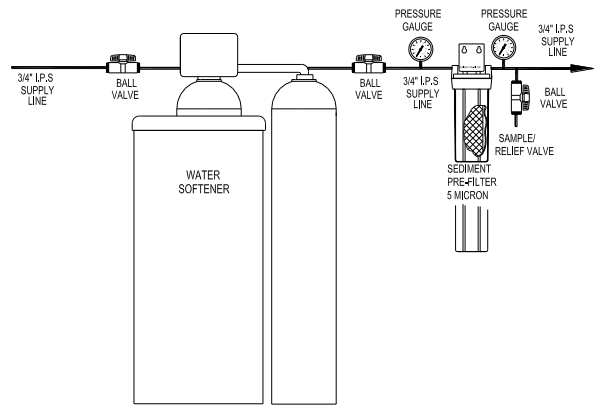
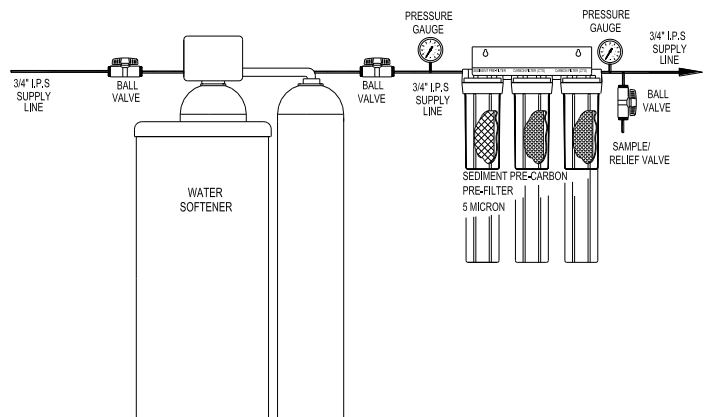

FIGURE 2: NON-CHLORINATED FEED
FIGURE 3: CHLORINATED FEED
If the system requires the installation of a softener, a five-micron sediment filter should be installed just before the RO system (Fig.2)
If the system requires non-chlorinated water and the feed water is chlorinated, install a carbon cartridge filter after the five-micron sediment filter and before the RO. (Fig.3)
If using a backwashing carbon filter, the five-micron sediment filter will have to be installed after the carbon filter and before the RO. (Fig.2)
3. Install a valve (sample/relief/flush) at the exit port of the pre-filter set up (Fig.2, Fig.3).